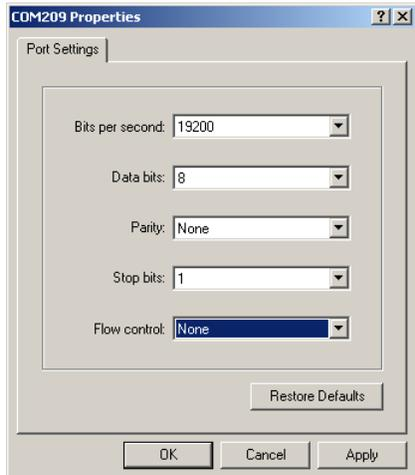

Figure 3-2. Default BeeStack RS-232 Settings
- Using HyperTerminal, set up a Virtual COM Port for each of the two nodes. Figure 3-2 shows the correct COM Port settings to run the applications.